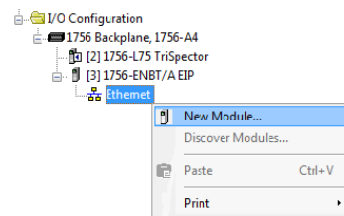

Figure 56: Open New Module window.
1. Select **Ethernet** under the communication interface 1756-ENBT/A in Studio 5000 and click **New Module** to open the module selection window, see figure 56.